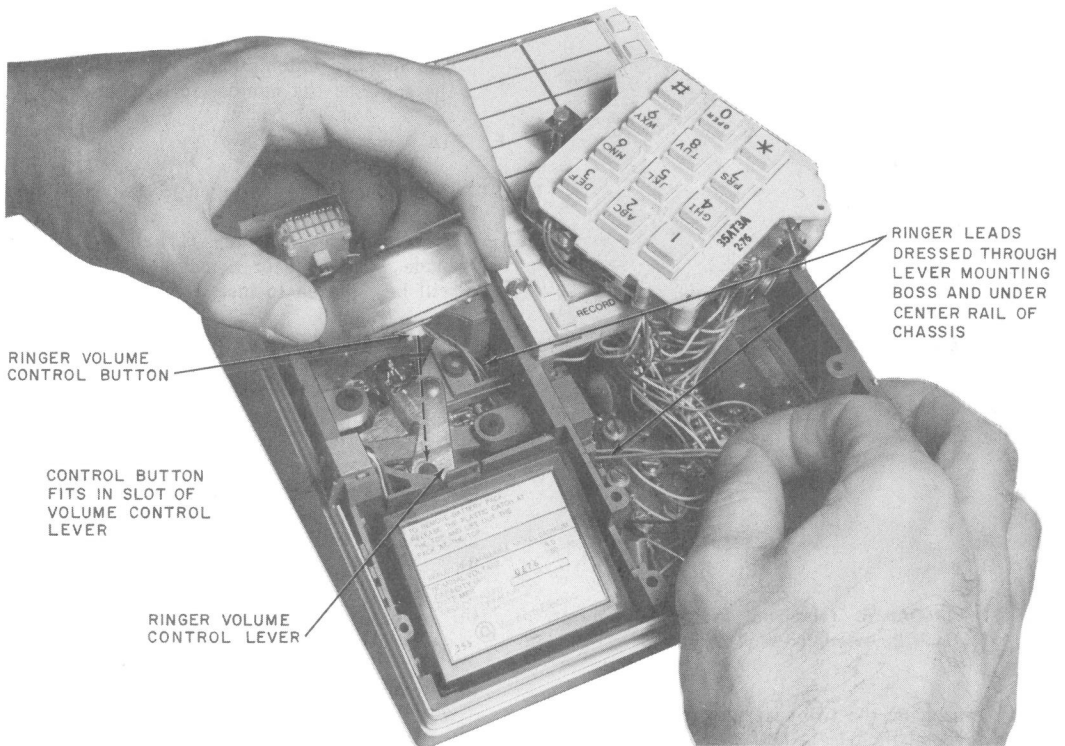

Fig. 10—Ringer Being Installed in 2960A01M Chassis With Dial Rotated onto Memory and Shield Removed
- (1) Remove the faceplate (paragraph 3.15) and place the shield aside.
- (2) Disengage the two captive screws that hold the dial in place.
- (3) Gently lift dial, rotating counterclockwise to enable frequency switches located at lower front edge of dial to clear housing. As dial rotates clear, it may be placed on memory assembly with dial buttons up as in Fig. 10.
- (4) Check that dial connections are properly seated and reassemble by reversing the procedure.
- (5) Temporarily replace the lower housing and place the set on its feet.
- (6) Remove the upper housing (paragraph 3.16).
- (7) Remove the dial [paragraph 3.18 (2) and (3)] and place aside (Fig. 10).
- (8) Disconnect the ringer leads and remove ringer.
- (9) Dress the leads of the new ringer through the ringer adjust arm mounting boss and under the center rail of the chassis, and connect to the appropriate terminals.
- (10) As the ringer is lowered into its mounting position, pull any slack in the leads through to the dial side of the center rail (Fig. 10).
- (11) Replace the dial.
- (12) Remove the lower housing. Holding the ringer in position, turn the chassis over to expose the clearance holes in the power supply board.
- (13) Attach one ringer mounting screw onto the blade of a screwdriver, (see preceding note).
- (14) Insert the ringer mounting screw into one location and secure ringer.
- (15) Align the ringer adjust arm over the ringer volume control button (Fig. 10).
- (16) Replace the remaining ringer mounting screw with the "special" screwdriver and tighten ringer into place.
- (17) Replace the housings, and shield, faceplate, and handset.
- (18) Dial appropriate code for ring-back to test the ringer.
- (1) Disconnect 2012B or 2012D transformer.
- (2) Turn battery switch to OFF.
- (3) Remove the upper housing (paragraph 3.16).
- (4) Release the battery and place aside [paragraphs 3.19 (2) and (3)].
- (5) Release the dial [paragraph 3.18 (2) and (3)] and place aside (Fig. 10).